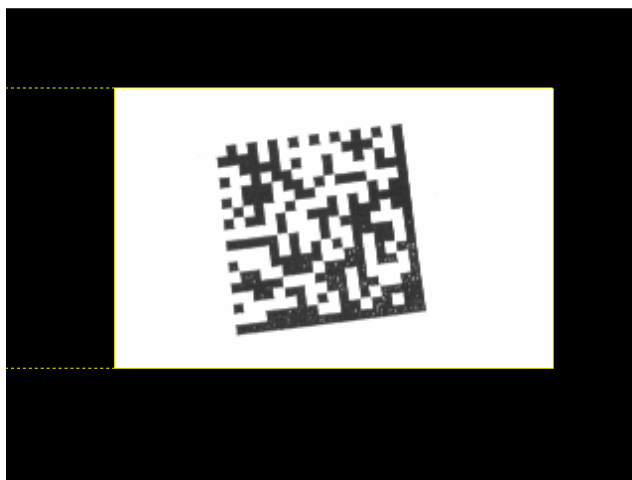

Figure 7: Partial acquisition window for 530 and 540 systems.
**Note:** For the 520 system, the digitized area will correspond to the partial image coordinates specified by the user. On the 530 and 540 systems, the area to the left of the image window will still be digitized as it is shown in Figure 7 with the dotted lines. This will be true for the regions both right and left of the acquisition window entered by the user for the 542C, 544 and 544C systems.